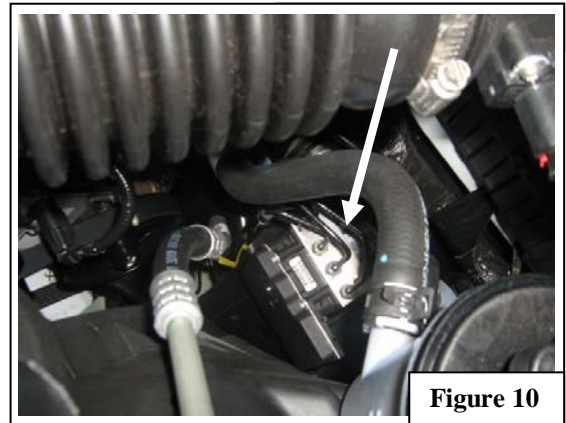
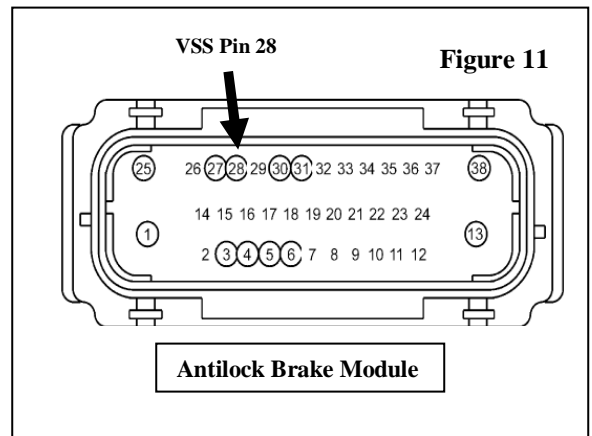

Figure 10
Figure 11
- Route the **Violet** through grommet on firewall to antilock brake module located under the air intake system (**Figure 10**). Note: If extra length is needed, use the White/Purple wire to extend Violet Wire. Connect the **Violet Wire** from the **Main Wiring Harness** to the **Yellow Wire** (Vehicle Speed Sensor) in **Pin 28** of the antilock brake module. **Note: The yellow wire will be entwined with purple/white wire.** Apply the supplied weather sealant to the connection. Be sure all of connection is sealed properly. **Figure 11**